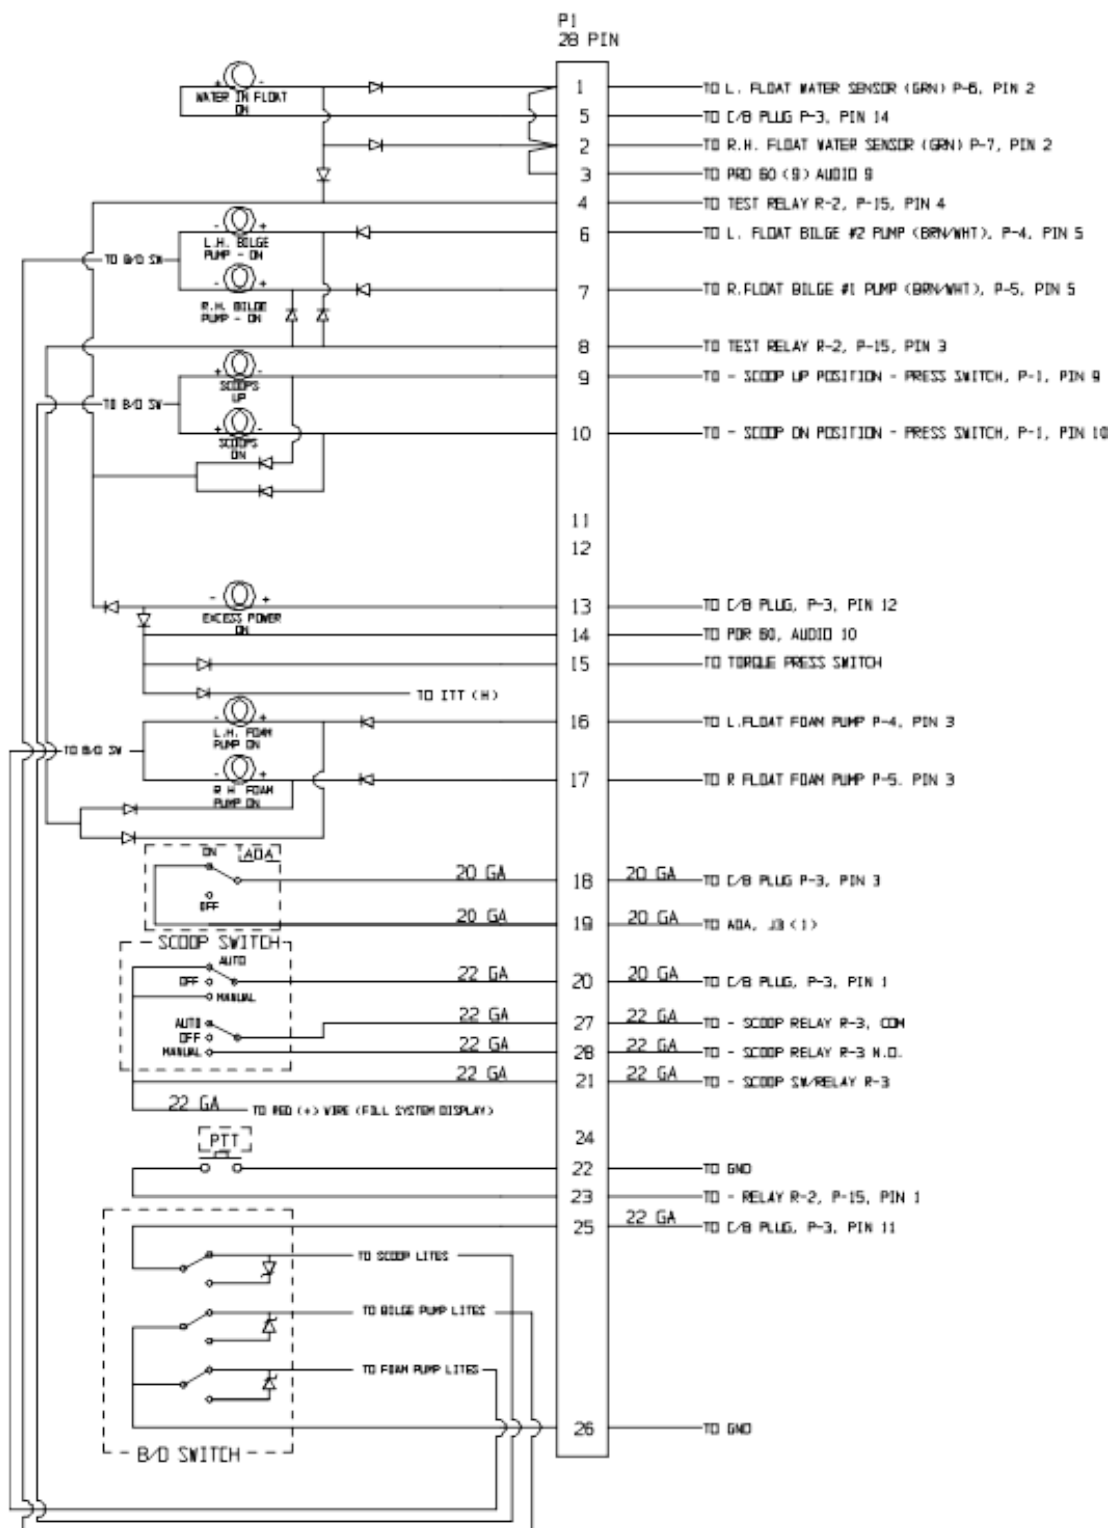
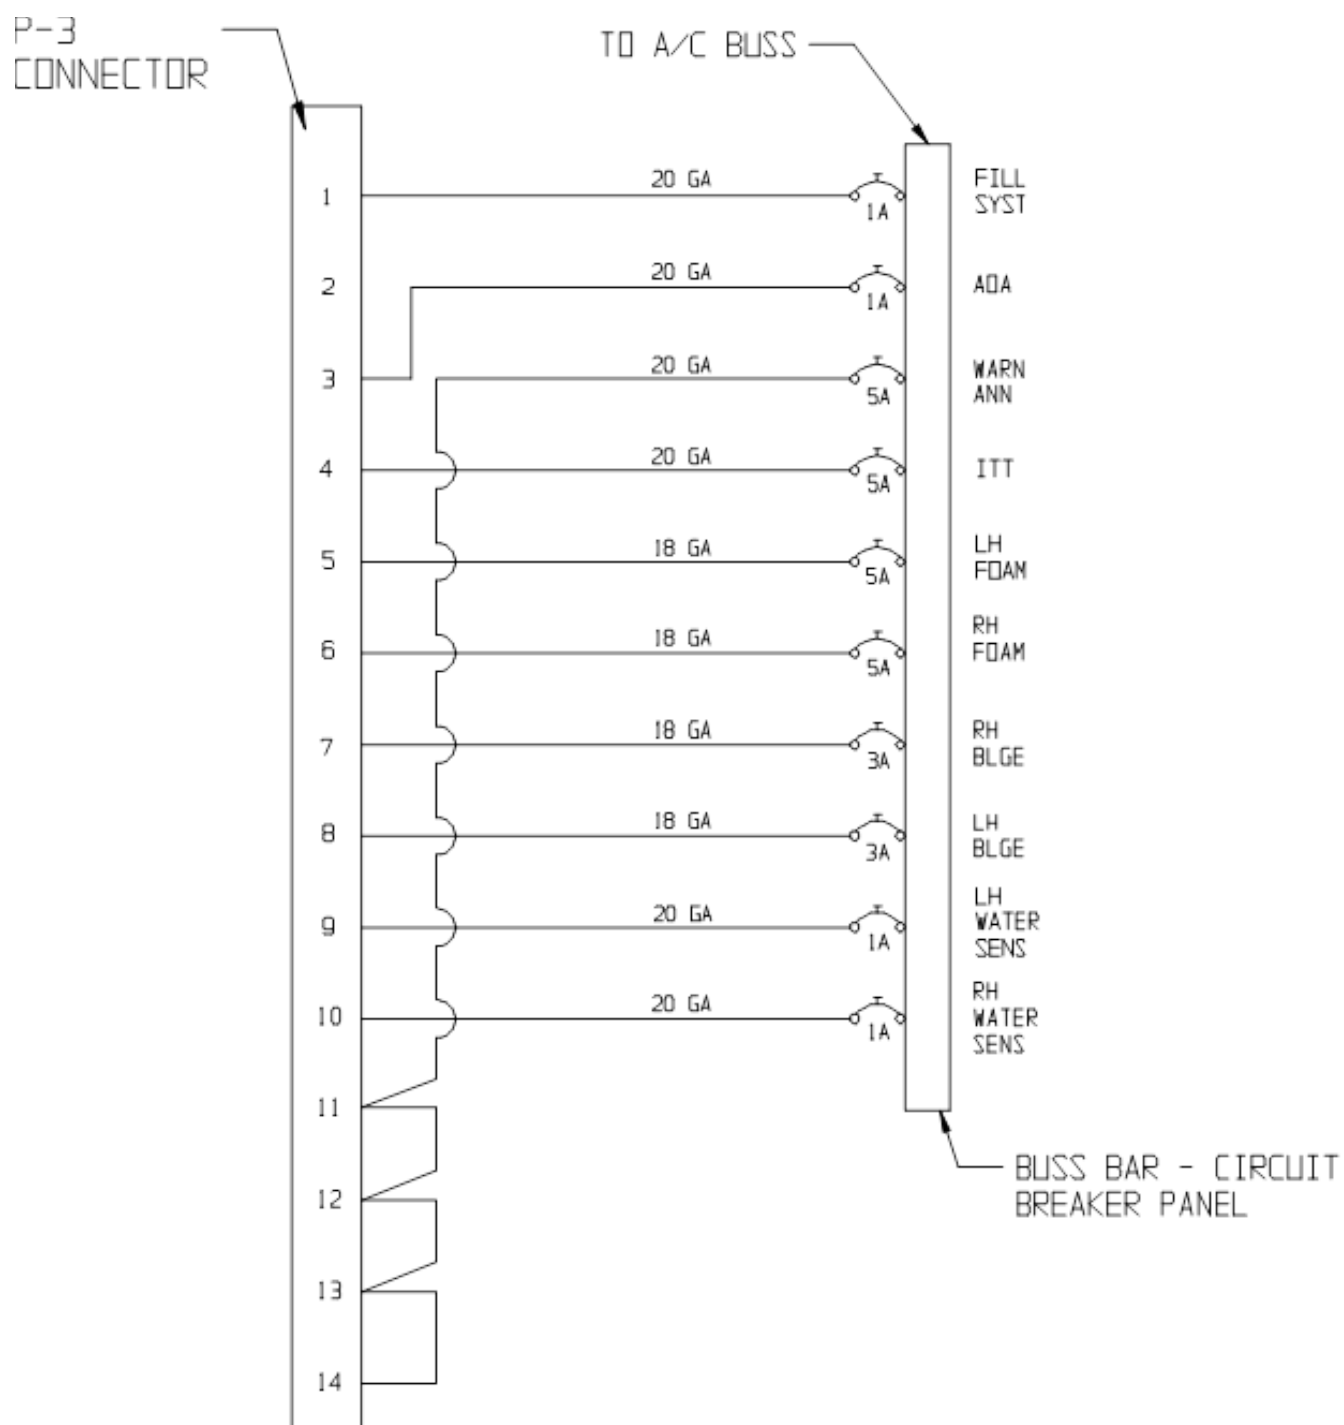

FIGURE 13.0
FIGURE 13.1
13.1 Figures 13.0 through figure 13.1 show the electrical schematic for the auxiliary instrument panel along with electrical schematics for each noted system.